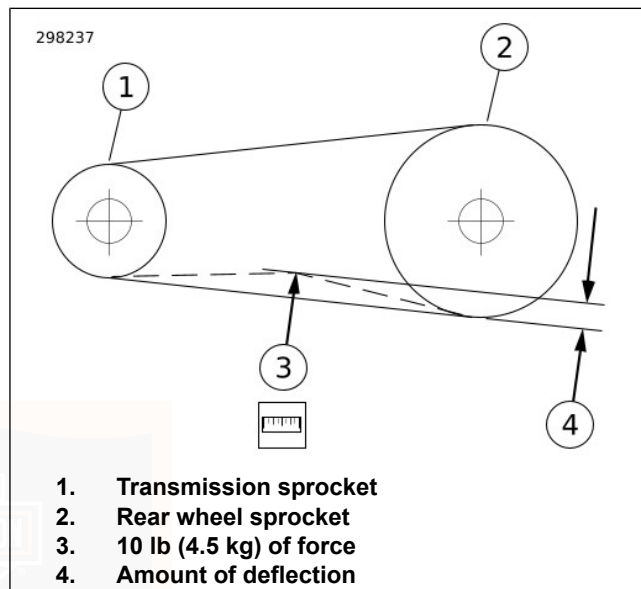

Figure 69. Checking Belt Deflection
b. **All other models:** See Figure 69. Measure amount of deflection (4) while holding gauge steady.